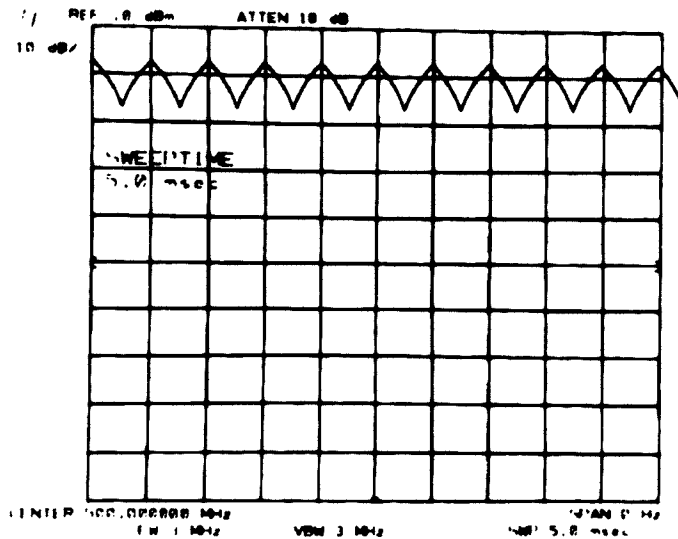

Figure 2-36. Fast Sweep Time Measurement (<20 ms)
10. Adjust spectrum analyzer TRIGGER LEVEL to place a peak of the triangular waveform on the first graticule from the left edge of the CRT display as a reference. (Adjust function generator amplitude, if necessary, to provide a signal large enough to produce a stable display.) The fifth peak from the reference should be within ± 0.5 division of the sixth graticule from the left edge of the display. (See Figure 2-36.)